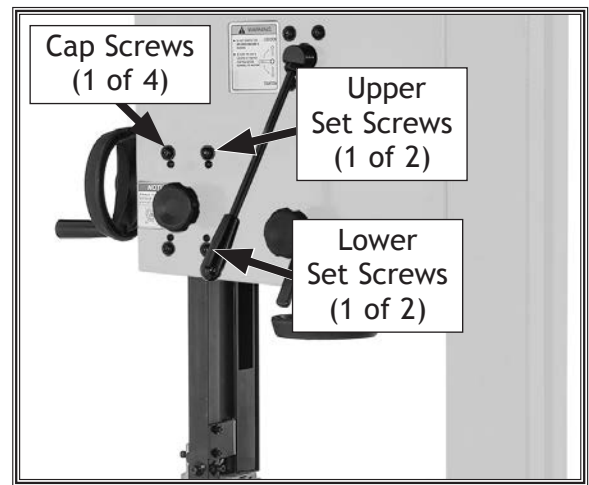

Figure 97. Guide post parallelism adjustment screws.
6. Loosen four cap screws shown in **Figure 97**.
- If guide post to blade distance is greater at *bottom* than at *top*, tighten two *upper* set screws shown in **Figure 97** an equal amount until guide post is parallel with blade.
- If guide post to blade distance is greater at *top* than at *bottom*, tighten two *lower* set screws shown in **Figure 97** an equal amount until guide post is parallel with blade.
7. Tighten four cap screws shown in **Figure 97**, then repeat **Steps 4-5**.